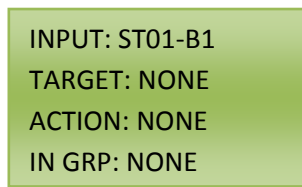

Figure 8.2
2. The first line will read INPUT: ST01-B1, the second will read TARGET: NONE, the third will read ACTION: NONE and the fourth will read IN GRP: NONE. See Figure 8.2 for a visual example.